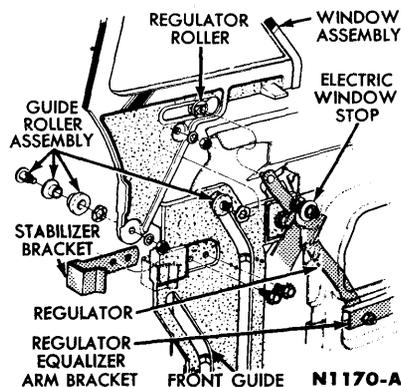

FIG. 11—Quarter Window Rollers
5. Lower the glass, lift the glass from the front guide (Fig. 11), and remove the glass assembly.